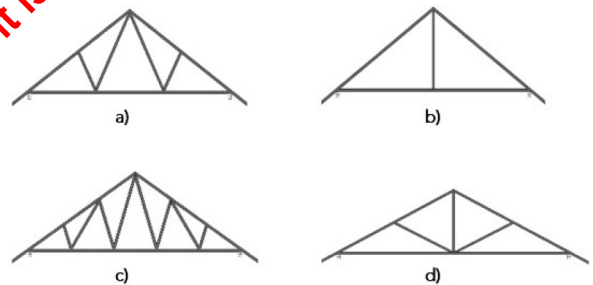

Figure 3
- 8 Which truss is known as a fink in Figure 3?